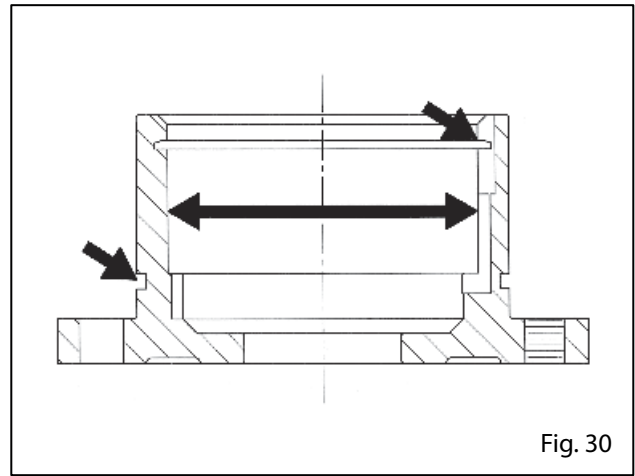

Fig. 30
- Check the bearing seat according to the "Table for bearing adjustment and tolerances", replace if values exceed those listed in the table (see Figure 30).